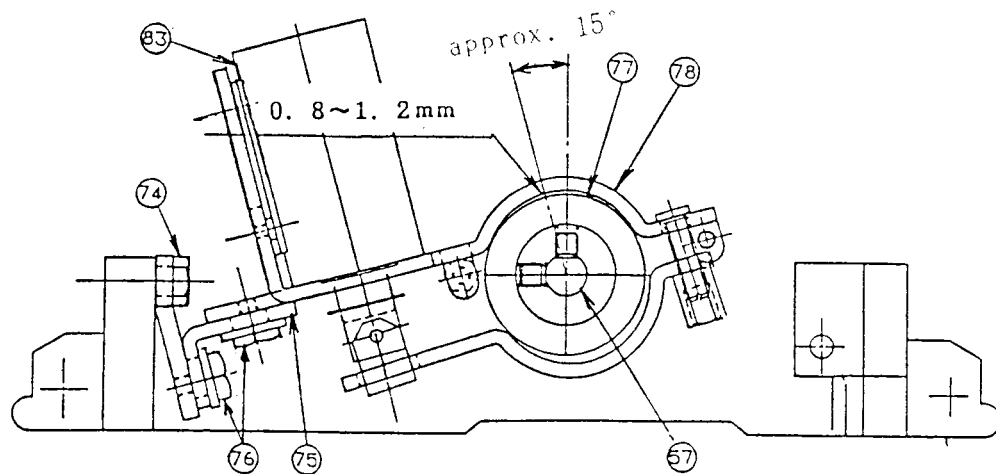

Fig. 15
1. To adjust the rapid feed brake solenoid plate(left) (Fig.15)
Loosen two bracket screws(74) and four screws(76) in adjusting plate (75) and adjust rapid feed brake solenoid plate(left) (78) so that clearance between rapid feed brake drum(77) on the rapid feed shaft(57) and solenoid plate (78) is 0.8-1.2mm when measured at a point 15 degrees from the top as shown in Fig.15. The 0.8-1.2mm clearance should also be evenly spaced over the brake drum in axial direction.